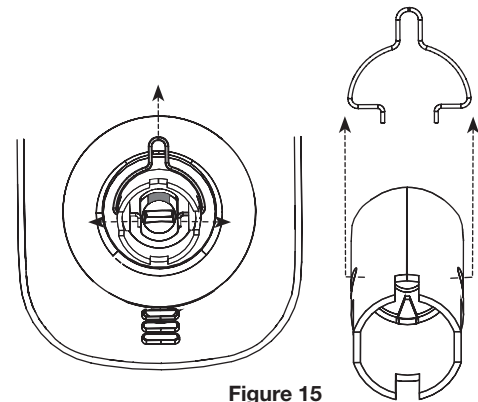

Figure 15
A. **Once correct handing is determined**, remove the clip that has held the hub in its correct position by spreading clip ends to extract clip from shank as shown in Fig. 15.